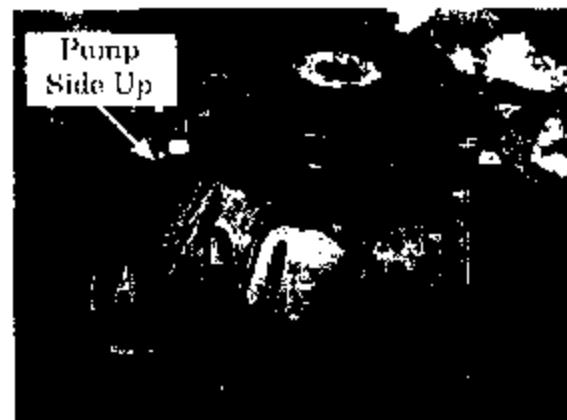

Figure 3
11. Lift the converter housing and oil pump assembly straight up. Set the assembly on the bench with the pump side up (see figure 3).
56. Lower the converter housing and oil pump assembly onto the adapter case (*see figure 3*).